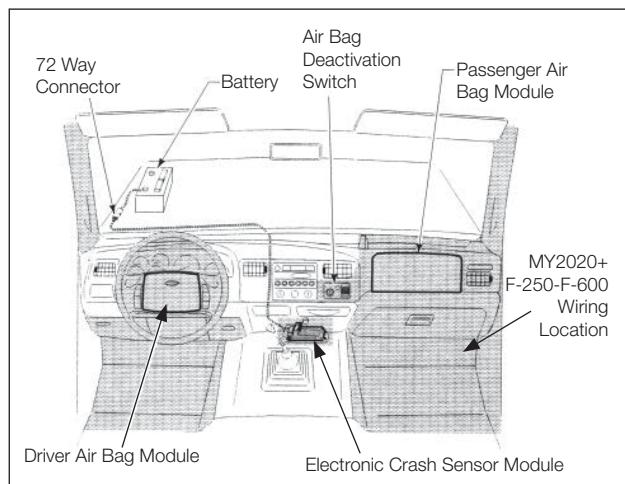

Figure 3
2. Locate a position in the cab for mounting the PTO switch and mounting bracket. The shaded area in **(Fig. 3)** shows the Occupant Protection Zone of the deployed air bags that are available in these vehicles.